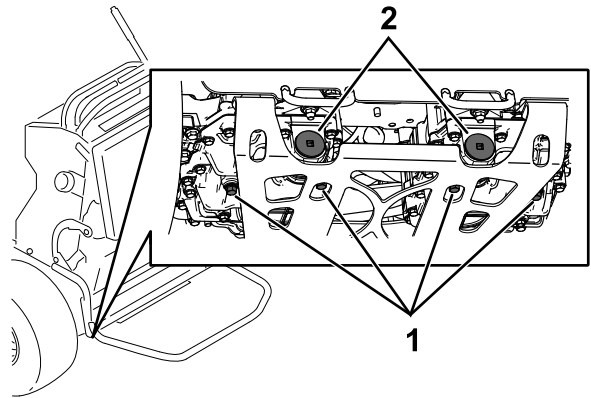

Figure 71
- 5. Locate the drain plug in the bottom of each transmission and place a drain pan under the plugs (Figure 71).